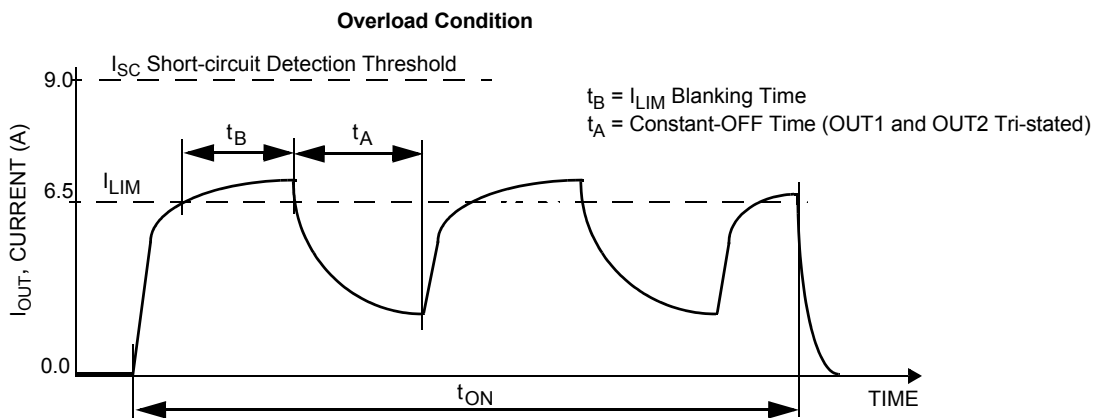
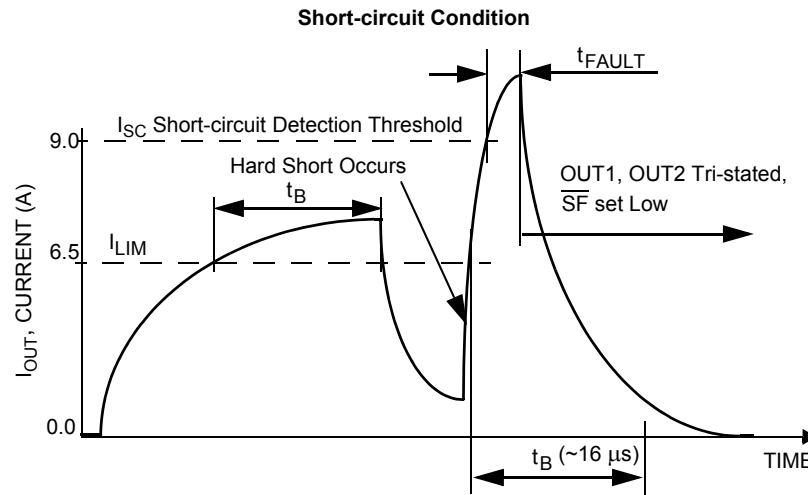
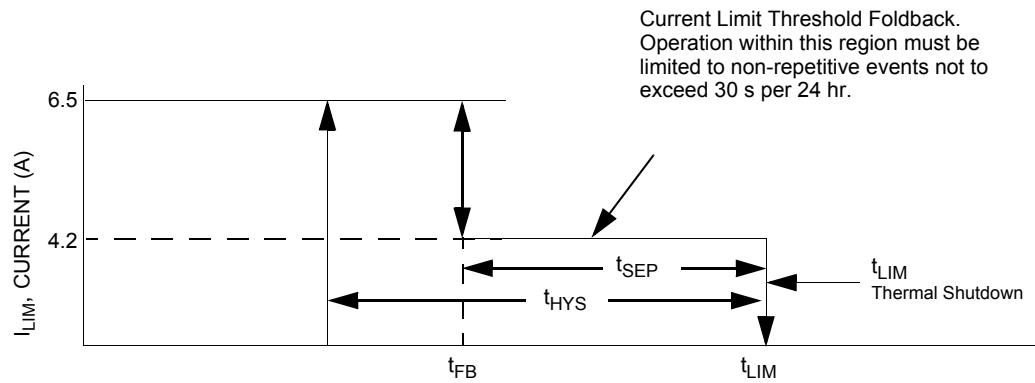

Figure 7. Current Limit Blanking Time and Constant-OFF Time
Figure 8. Short-circuit Detection Turn-OFF Time t_{FAULT}
Figure 9. Output Current Limiting Foldback Region
28. Load currents ramping up to the current regulation threshold become limited at the I_{LIM} value (see Figure 7). The short-circuit currents possess a di/dt that ramps up to the I_{SCH} or I_{SCL} threshold during the I_{LIM} blanking time, registering as a short-circuit event detection and causing the shutdown circuitry to force the output into an immediate tri-state latch-OFF (see Figure 8). Operation in Current Limit mode may cause junction temperatures to rise. Junction temperatures above $\sim 160^\circ\text{C}$ will cause the output current limit threshold to “fold back”, or decrease, until $\sim 175^\circ\text{C}$ is reached, after which the t_{LIM} thermal latch-OFF will occur. Permissible operation within this fold back region is limited to non-repetitive transient events of duration not to exceed 30 seconds (see Figure 9).